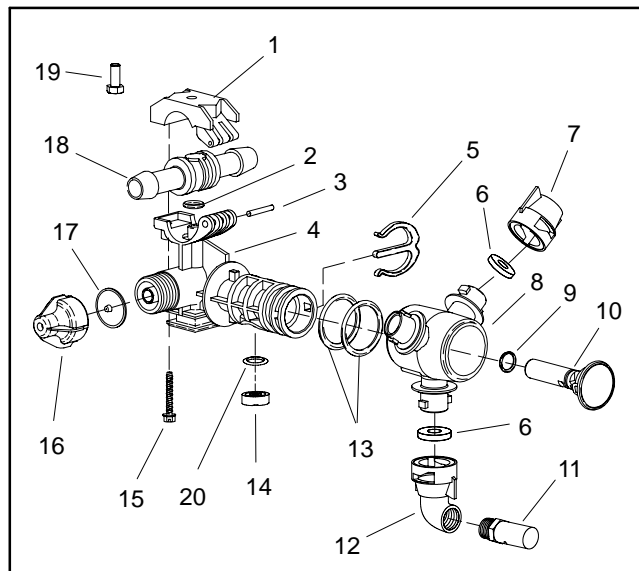

Figure 60
Disassembly (Fig. 60)
2. Disassemble turret body using Figure 60 as a guide.
Assembly (Fig. 60)
2. Assemble turret body using Figure 60 as a guide.